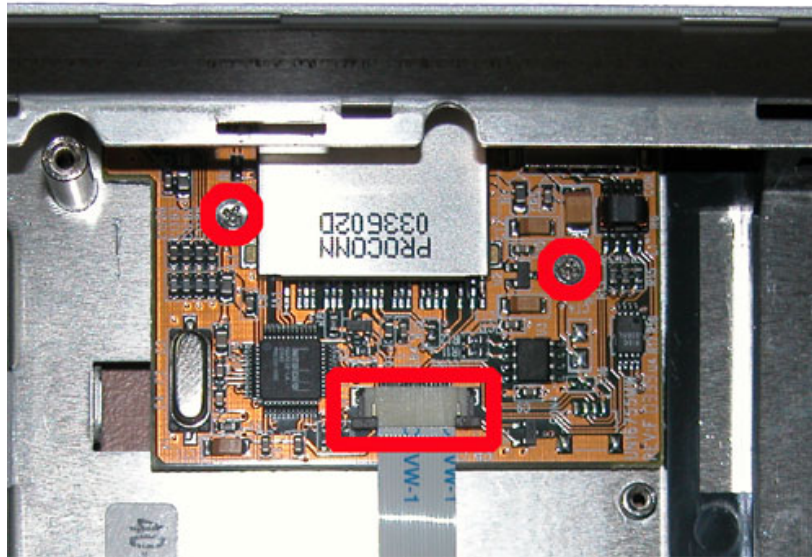

Fig. 25 Multi card Reader
1. Unscrew the screws on the Multi Card Reader and disconnect it as shown in Fig. 25